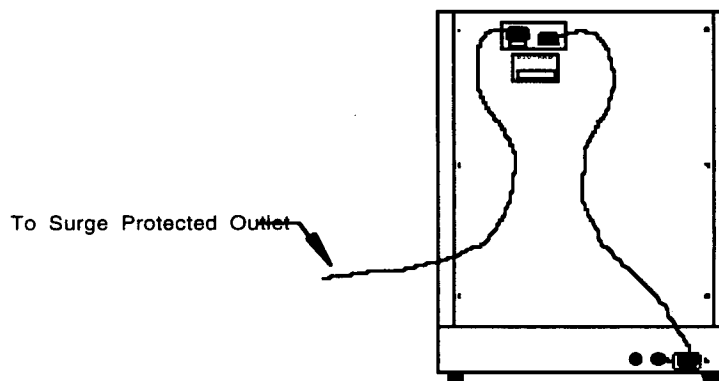

Figure 1. Attaching Power Cords to the Gel Doc 1000
- Step 2:** Attach the appropriate voltage power cords (supplied) to the back of the Gel Doc 1000 as shown in Figure 1. Plug the power cords to a surge protector. Note: Do not turn on any power until the Gel Doc and computer are completely setup.
- Step 4:** Turn the four (4) knobs at the base side of the Gel Doc 1000 hood until tight.
- Step 5:** Attach the appropriate voltage power cords (supplied) to the back of the Gel Doc 1000 as shown in Figure 1.. Plug the power cords to a surge protector. Note: Do not turn on any power until the Gel Doc and computer are completely setup.